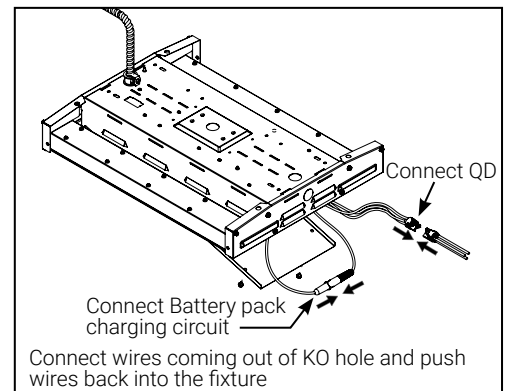

Figure 2.
3. Wire the AC input to the fixture via the 3 port disconnect (if equipped), to include the unswitched circuit for the battery pack. Wire according to code. (Figure 2).